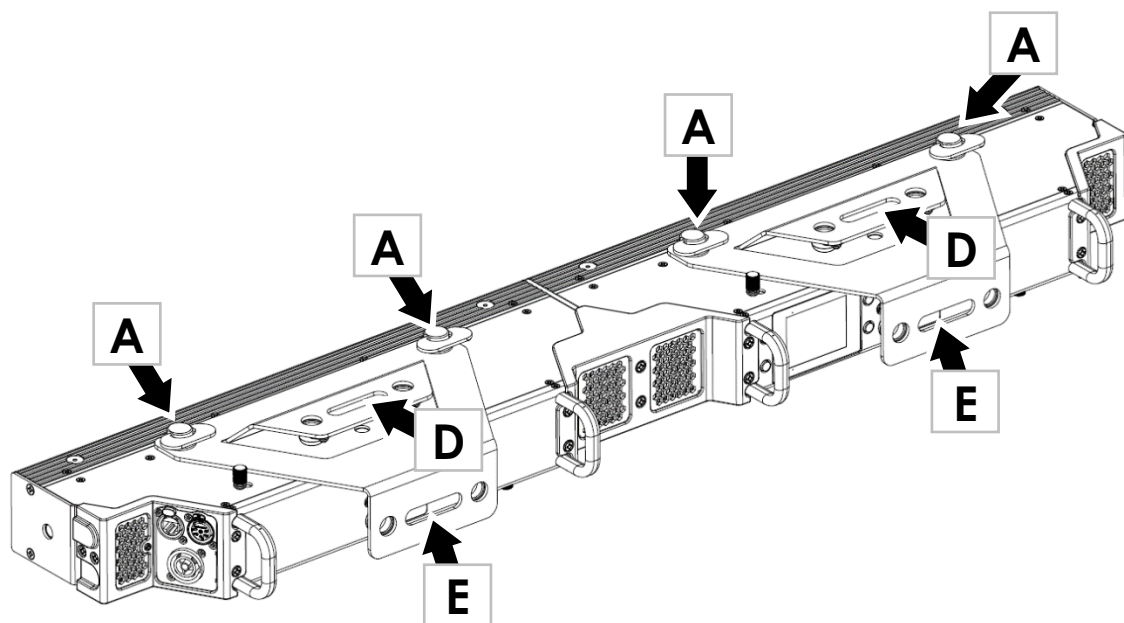

Figure 7. Mounting on a surface using JDC Line Rigging Brackets
2. See Figure 7. Fasten the two Rigging Brackets to the fixture using the brackets' quarter-turn fasteners **A** as described on page 15.